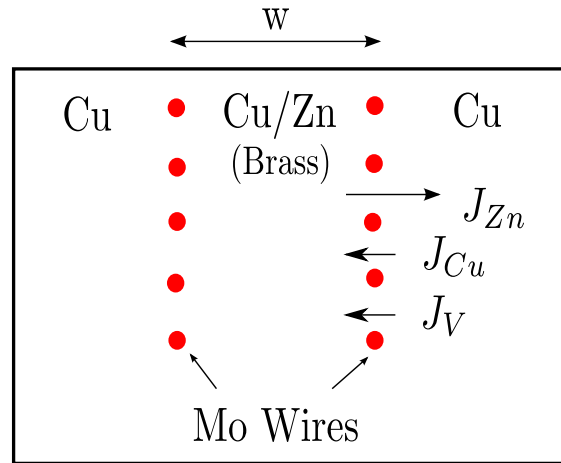

Figure 4.1: Experimental Geometry for the Kirkendall experiment.
3) A diffusion couple including inert wires was made by plating pure copper on to a block of  $\alpha$ -brass with  $X_{Zn} = 0.3$ , as shown in Figure 4.1. After 56 days at 785 °C the marker velocity was  $2.6 \times 10^{-8}$  mm/s, with a composition at the markers of  $X_{Zn} = 0.22$ , and a composition gradient,  $\partial X_{Zn} / \partial z$  of  $0.089 \text{ mm}^{-1}$ . A detailed analysis of the data gives  $\tilde{D} = 4.5 \times 10^{-13} \text{ m}^2/\text{s}$  for  $X_{Zn} = 0.22$ . Use these data to calculate  $D_{Zn}$  and  $D_{Cu}$  for  $X_{Zn} = 0.22$ . How would you expect  $D_{Zn}$ ,  $D_{Cu}$  and  $\tilde{D}$  to vary as a function of composition?